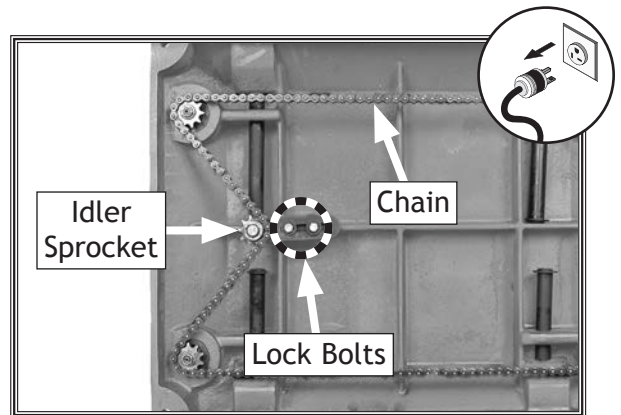

Figure 60. Table height chain adjustment (shown without stand for purpose of illustration).
2. Remove motor access panel to access table height chain shown in **Figure 60**.
3. Loosen two chain tension lock bolts, then push idler sprocket against chain with moderate pressure to eliminate slack in chain. While maintaining pressure on idler sprocket, re-tighten bolts (see **Figure 60**).